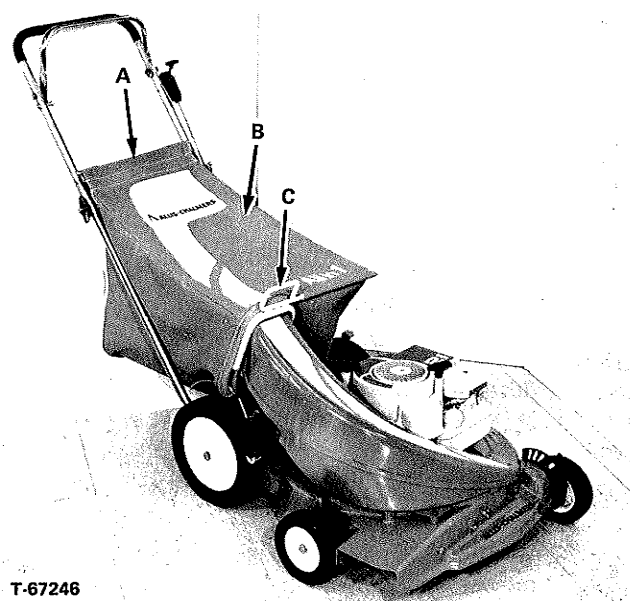

FIGURE 7 - GRASS BAG
4. Install the grass bag as shown in Figure 7. Hook the rear hanger (A) onto the cross bar. Slide the front hanger down onto the grass chute.